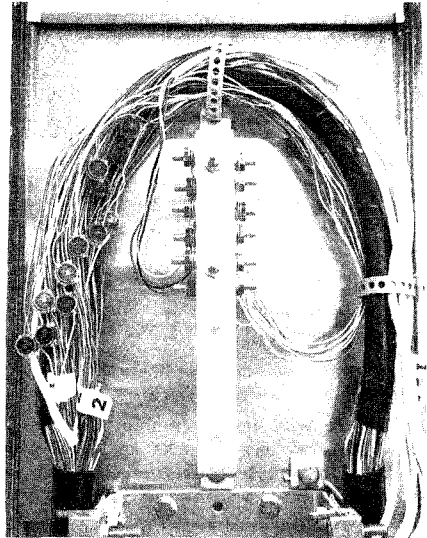
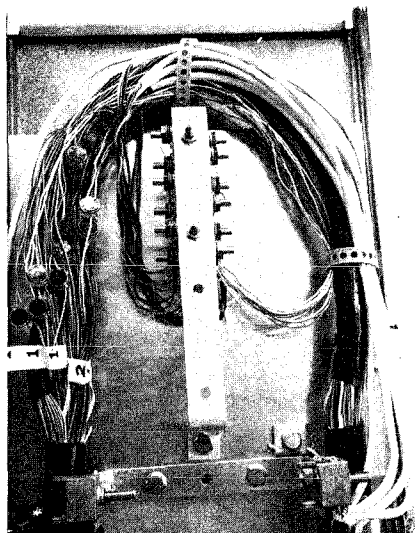

Fig. 15—Terminating Service Wire Conductors
Fig. 16
to approximately 2 inches from the B Cable tie located on the top of the telephone panel as shown in Fig. 15.
(2) Dress the service wire conductors down past the binding posts to be connected, and then back up to the desired binding posts (forming a loop as shown in Fig. 15) using the entire length of service wire conductors.
(3) The red and green conductors of the service wire constitute the first pair and should be the initial pair terminated on the desired binding posts. The black and yellow constitute the second pair and should be terminated only after the red and green conductors have been assigned.
(4) The spare service wire conductors not immediately required should be neatly twisted or wrapped around the assigned pair of the service wire and left in an orderly fashion for future assignment.
(5) To ensure adequate slack in the service wire conductors in case of termination rearrangement remove only sufficient conductor insulation to permit termination.
(6) Form the bare conductor into a hairpin loop.
(7) Slacken the nut of the desired binding post and place the bare conductor loop around the binding post in a clockwise direction between the two binding post washers.
(8) Fig. 16 illustrates the first terminal block in place with all binding posts occupied and one spare service wire remaining.